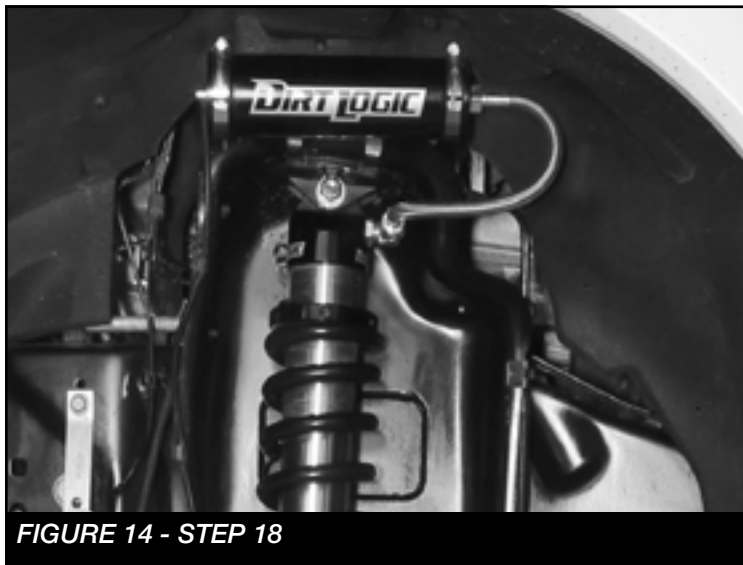

FIGURE 14 - STEP 18
18. Install the resi can to the resi mount using the supplied clamps. SEE FIGURE 14